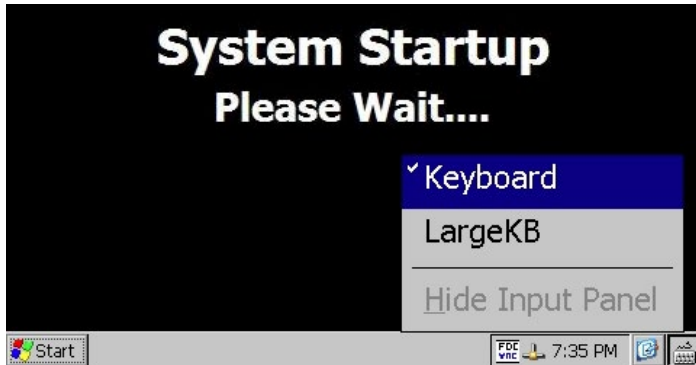

Fig. 125: Activate CE Keyboard
- Enable the CE keyboard (Fig. 125) so that it will be available to enter in the IP address. **Enable it now** or the taskbar cannot be accessed later once in the Ethernet Drivers screen. To enable the keyboard, touch the keyboard icon at the lower right of the taskbar. Select 'Keyboard' from the menu to make the keypad visible.